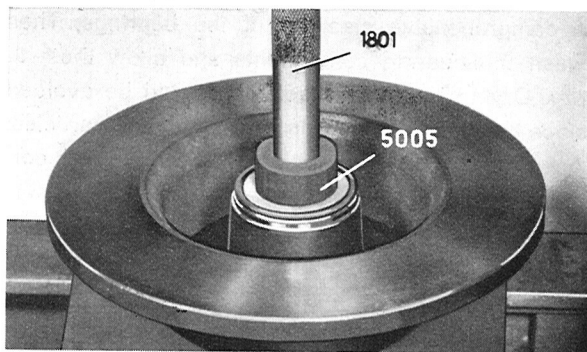

Fig. 6-22. Seal installation
2. Place the steering knuckle in position and tighten the ball joint nuts. If the ball joint twists, hold it firmly in position with a screw vise (see Fig. 6-22). Install the steering rod to the steering arm.